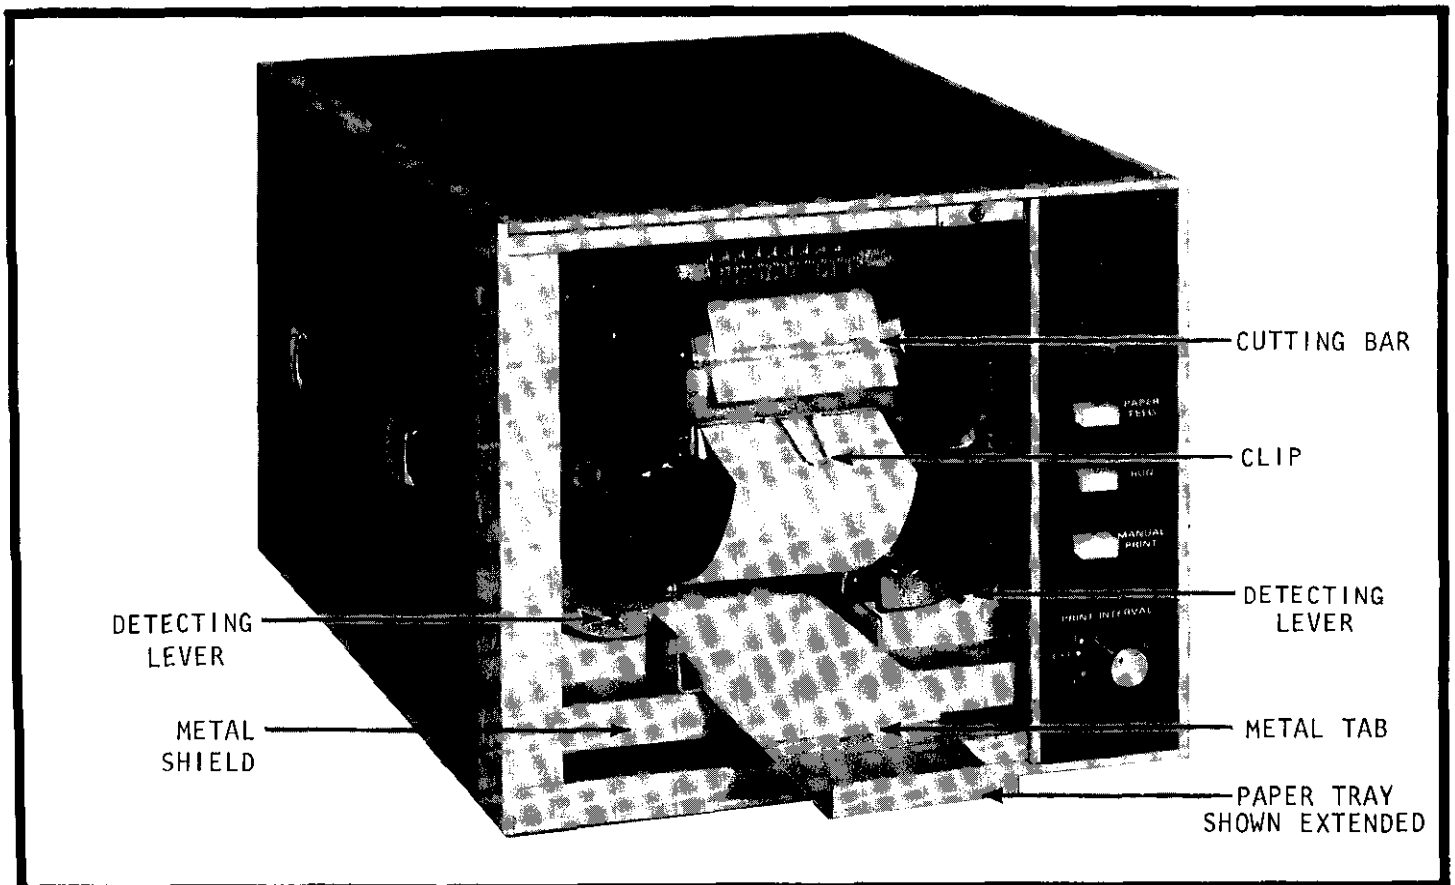

FIGURE 5. View of Paper Feed Mechanism.
5. Feed paper under the clip, over the arrow, and into printer mechanism as shown in Figure 5.
- b. On the printer mechanism, locate and push down the Detecting Lever of both spool shafts (see Figure 5).